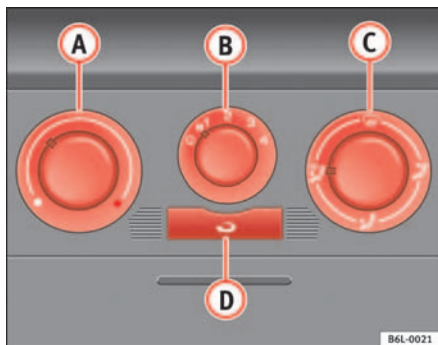

Fig. 86 On the dash panel: Heater controls
- Turn the temperature selector ⇒ fig. 86 ① anti-clockwise.
- Turn blower switch ⑦ to speed settings 1-4.
- Set the airflow to the desired direction using air distribution control ③.
- Turn the temperature selector ⇒ fig. 86 ① clockwise to select the required temperature.
- Turn the temperature selector ⇒ fig. 86 ① clockwise to the maximum temperature.
- Turn the blower switch ⑦ to setting 4.
- Set air distribution to ④.
- Close outlet ③.
- Open and turn outlet ④ towards side windows
- Turn the temperature selector ⇒ fig. 86 ① to the heating zone.
- Turn blower switch ⑦ to speed settings 2-3.
- Close outlets ③.
- Open and turn outlets ④ towards side windows.